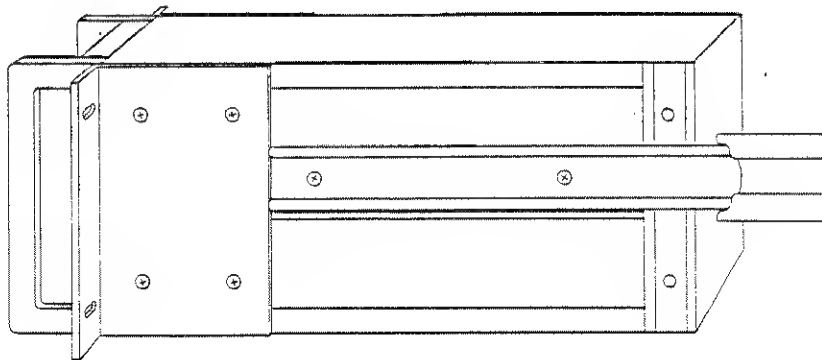

Figure 2-10 - Slide Assembly-to-Side Channel Installation
- 2.7.2.4 Refer to Figure 2-10. Mount the instrument-rail of the slide assembly securely to the side channel using the top slot and two phillips panhead self-tapping #8-32 x 5/16 screws. Ensure that the instrument-rail is flush against the rear of the flange-mount angle-bracket. Complete the same procedure for the other side of the instrument.